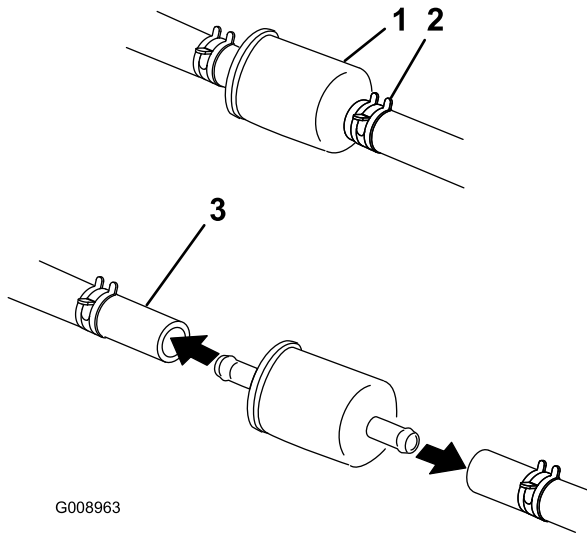

Figure 20
1. Close fuel shut off valve, loosen the hose clamp on the carburetor side of filter and remove the fuel line from the filter (Figure 20).